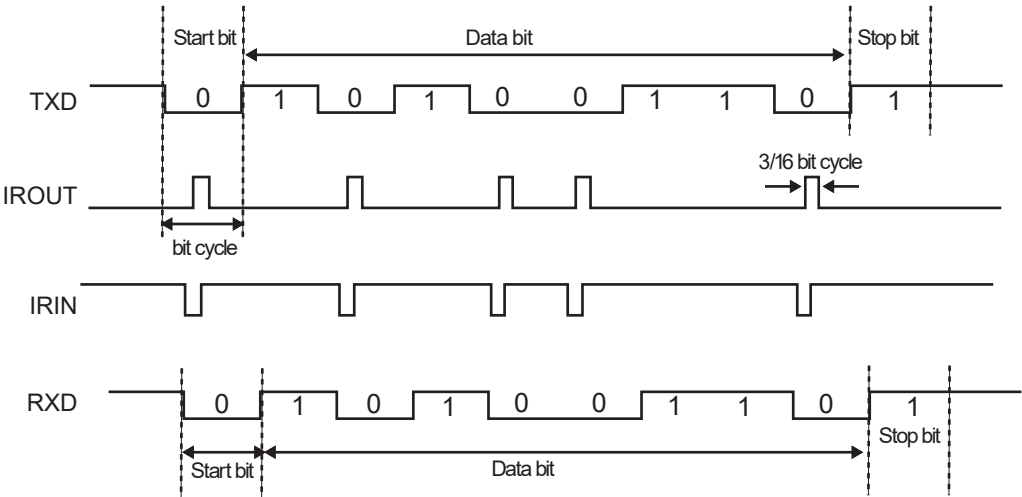

Figure 13-4 IrDA Data Modulation
**Note:** The transmit encoder output (IROUT) has the opposite polarity to the receive decoder input (IRIN). Please refer to Figure 13-4